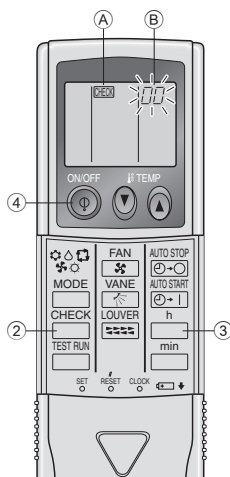

Fig. 7-6
7.3.2. Wireless remote controller (Fig. 7-6)
- ① Turn on the power.
- ② Press the **CHECK** button twice.